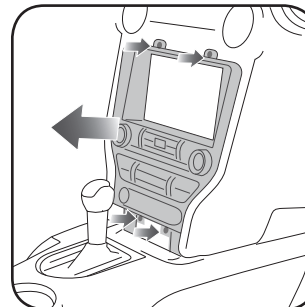

Fig. 1.6
8. Remove four (4) 7mm screws holding the trim radio panel. Unclip, remove and unplug the radio panel. (Fig. 1.6)